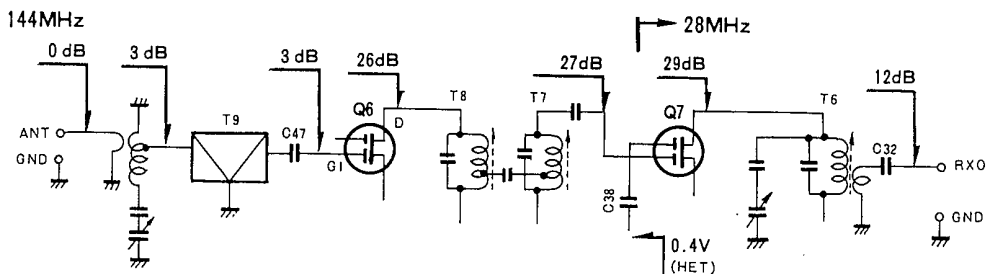

Fig. 8 Level Diagram of Reception
Fig. 8 shows the level diagram of reception.
**NOTE 1:** As shown in Fig. 8, the SSG signal of 145.0 MHz 0dB is fed from the ANT terminal and the AF VR is adjusted for the audio output of 0.63 V/8Ω. When the AF VR is properly adjusted for the specified audio level, the SSG signal level indicated at each section should be obtained.